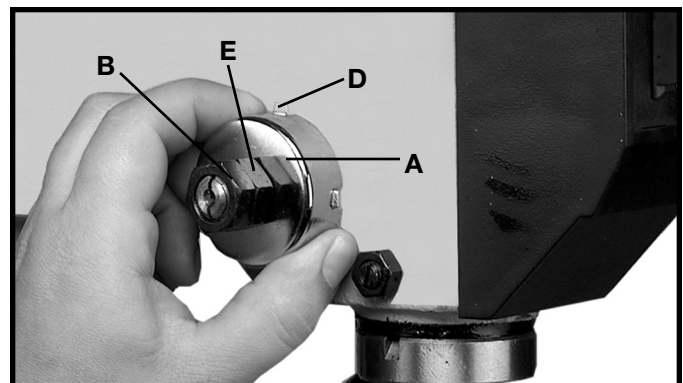

Fig. 31
2. While **FIRMLY HOLDING** spring housing (A) Fig. 31 pull out housing and rotate it until boss (D) is engaged with the next notch in the housing. Turn the housing counterclockwise to increase or clockwise to decrease spring tension. Turn nut (E) until it contacts spring housing (A), then back nut (E) out a 1/4 turn from spring housing (A). Tighten nut (B) against nut (E), to hold the housing in place. **IMPORTANT: Inside nut (E) should not contact spring housing (A) when tightened.**